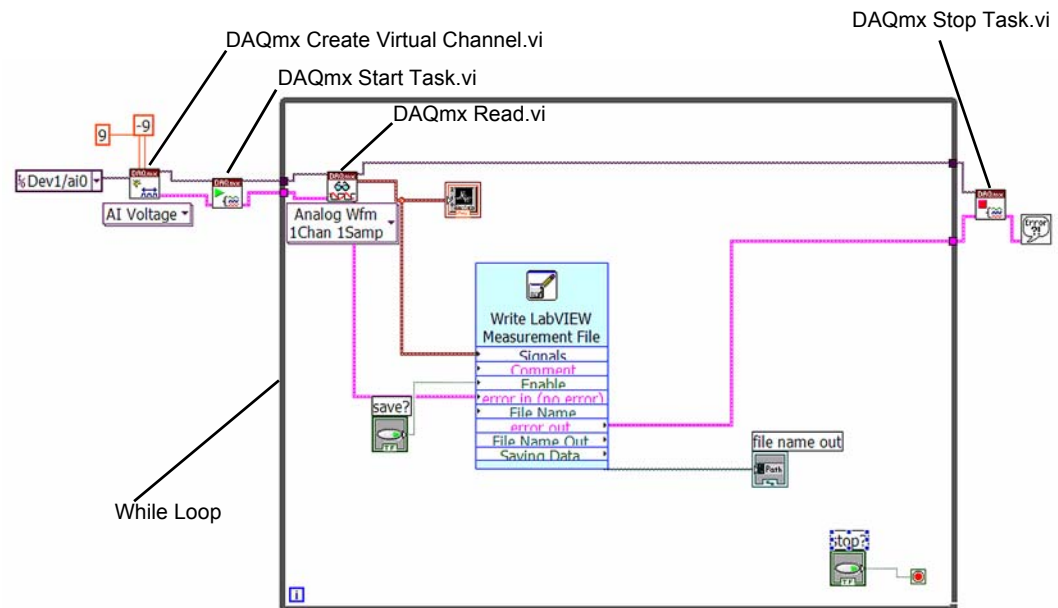
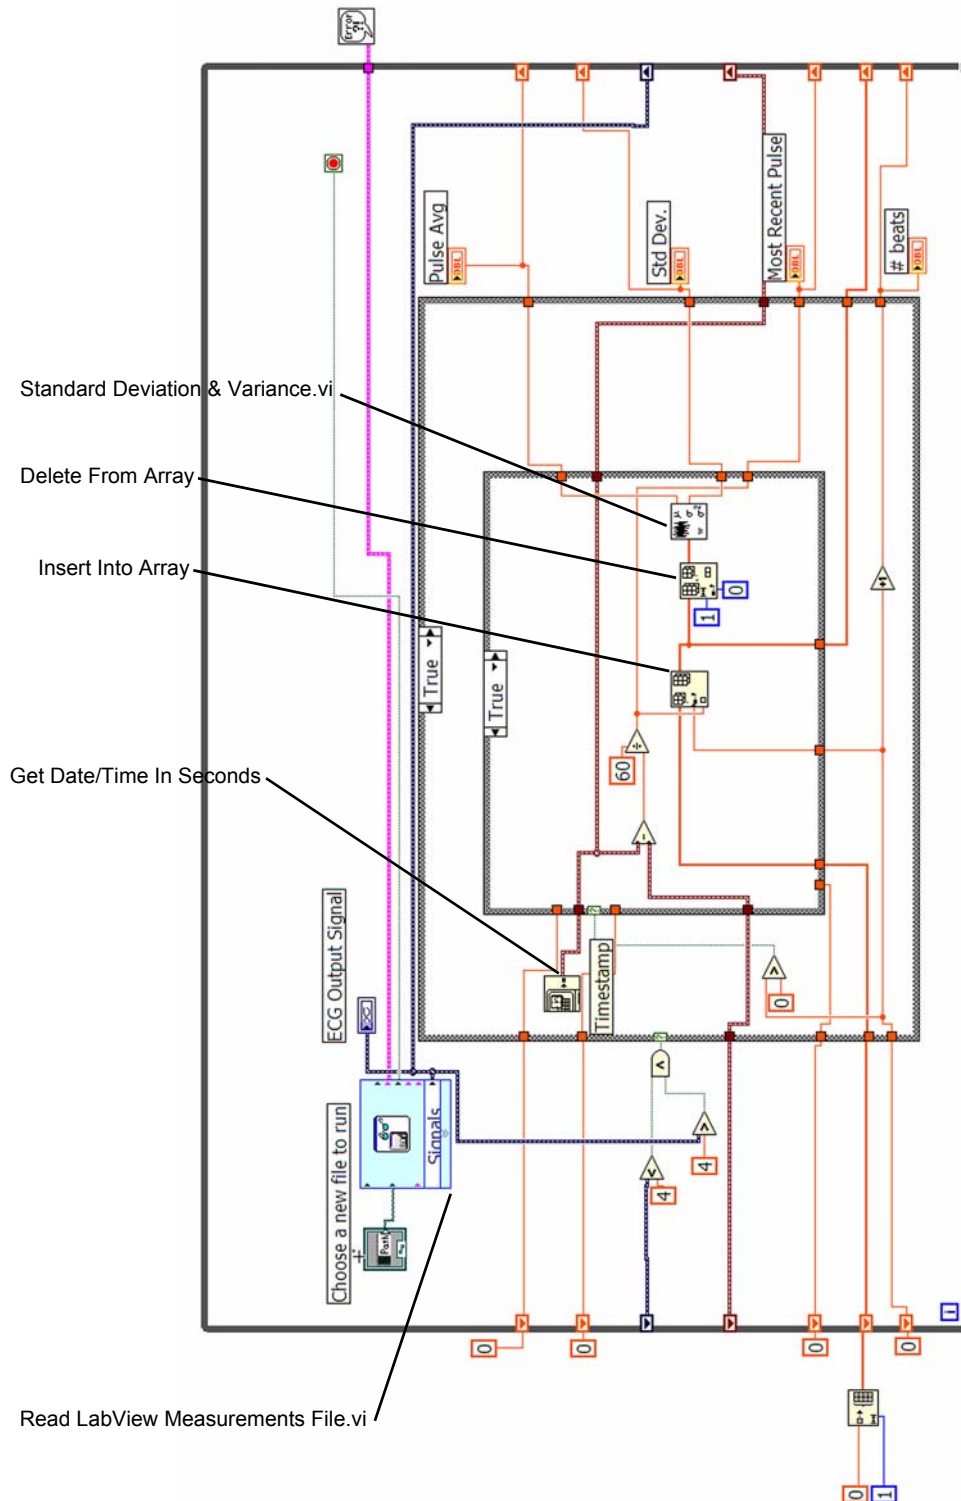

Figure 5-14. Block diagram of ECG.vi
Figure 5-15. Block diagram of Signal Analysis virtual instrument
2. If you are an expert user of LabView, open a blank VI and assemble the VI as shown in Figure 5-14.
- c. Assemble your VI as shown in Figure 5-14. When you are finished, save your file locally as **[your section number]ECG.vi**. For example, laboratory section 1 groups will save their VI locally as **1ECG.vi**.
2. If you are an expert user of LabView, open a blank VI and assemble the VI as shown in Figure 5-15.
- c. Assemble your VI as shown in Figure 5-15. When you are finished, save your file locally as **[your section number]Analysis.vi**. For example, laboratory section 1 groups will save their VI locally as **1Analysis.vi**.
- What do each of the sub VIs in Figure 5-14 on page 5-19 and Figure 5-15 on page 5-20 do? How are they important to the VI? What specific functions do they serve?
- The Analysis VI (Figure 5-15 on page 5-20) is rather complex at first blush, but we can divide the VI into three major sections. What are these sections? What does each section do?
- What exactly does the Analysis VI calculate? Using the VI (Figure 5-15 on page 5-20) itself, produce the equation that represents what the VI is doing.